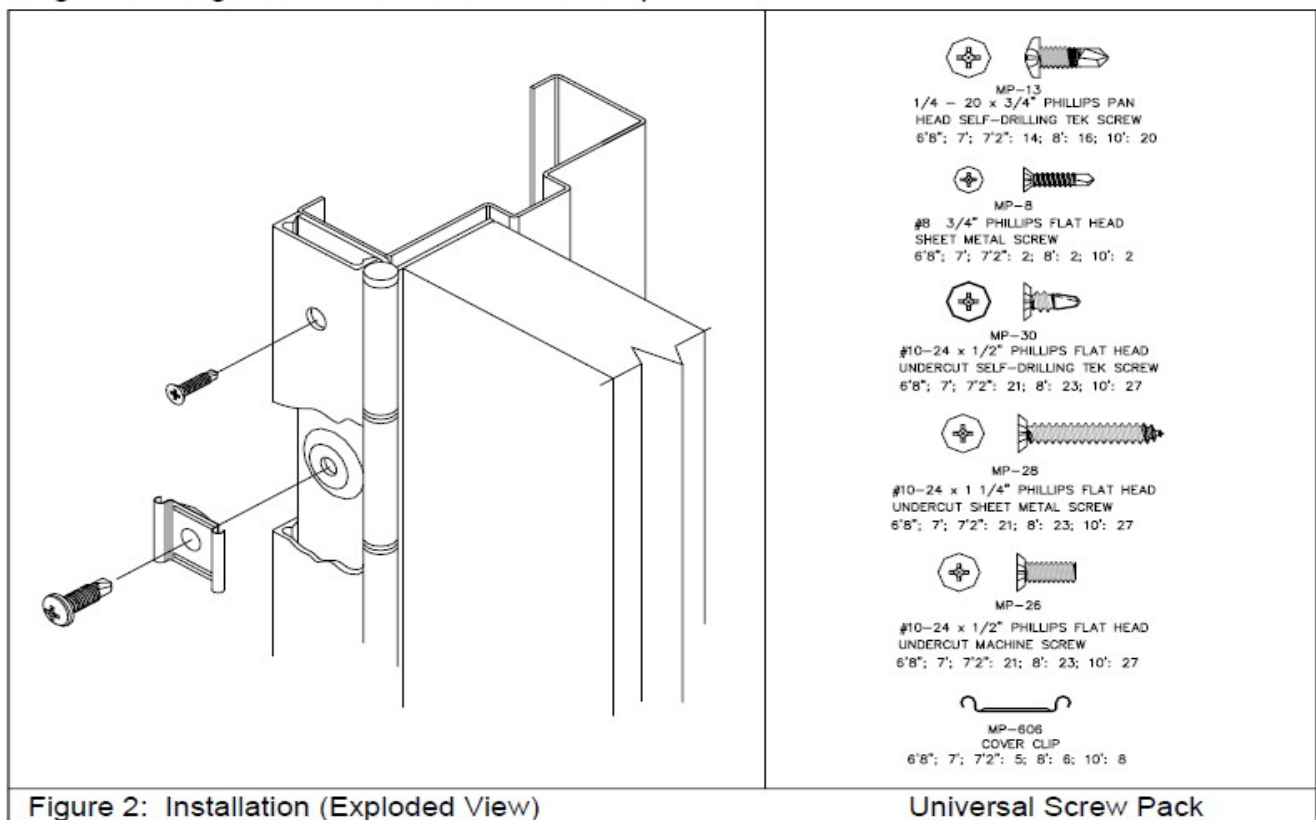

Figure 2: Installation (Exploded View)
- (6) (B) Tap the holes for a 10-24 thread. Attach the hinge to the door with 10-24 x 3/4" flat head undercut machine screws. OR
- (7) (C) Attach the hinge to the door with #10 x 1/2" flat head undercut self-drilling Tek screws.
- (8) Place the hinge and door in the opening.
(9) Molly Jacknuts (MP-20) are available from your hardware supplier as an optional means of attaching the door.
(10)(C) Mark the position of the top and bottom holes with a center punch, then drill and fasten with self-drilling Tek screws.
(11) Close the door and check for proper alignment.
(12) Permanently install the frame leaf with the remaining screws.
(13) Install five (5) cover clips by passing each screw through the clip, door leaf and door. (See Figure 2.)
(14) Engage the side of the cover next to the hinge pin first.
(15) Insert a large screwdriver between the hinge knuckle and the cover. Using the screwdriver as a lever, twist it and snap the opposite side of the cover onto the clip.
(16) Start at the top and work downward until the entire length of the cover is firmly engaged.
(17) With the cover firmly in place, secure it at both ends through the hinge and into the door with #8 x 3/4" self-drilling flat head Tek Screws.